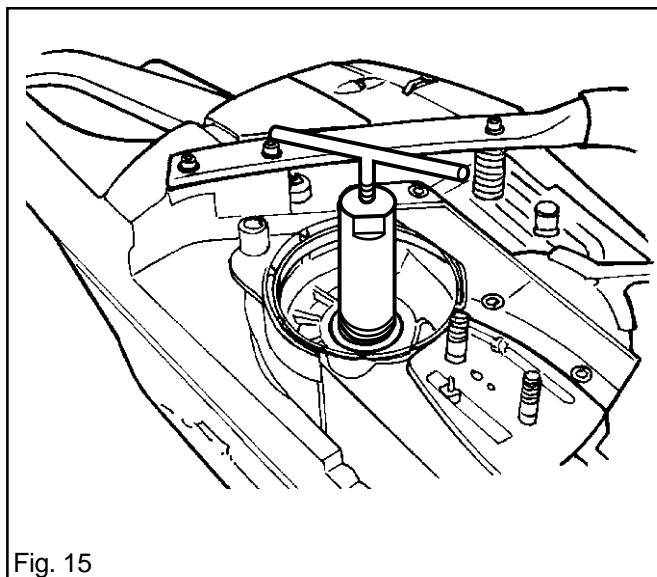

Fig. 15
2. Screw the relevant dismantling tool into the seal and pull it out. See pos. 12 or 13 on page 6 and 7 for dismantling tool. See also fig. 15.